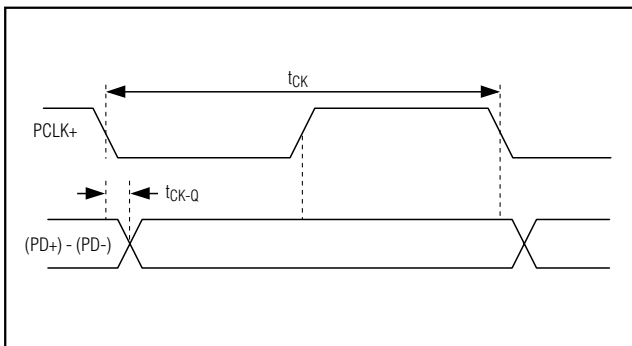

Figure 3. Definition of Clock-to-Q Delay
**Note 9:** Relative to the falling edge of PCLK+. See Figure 3.